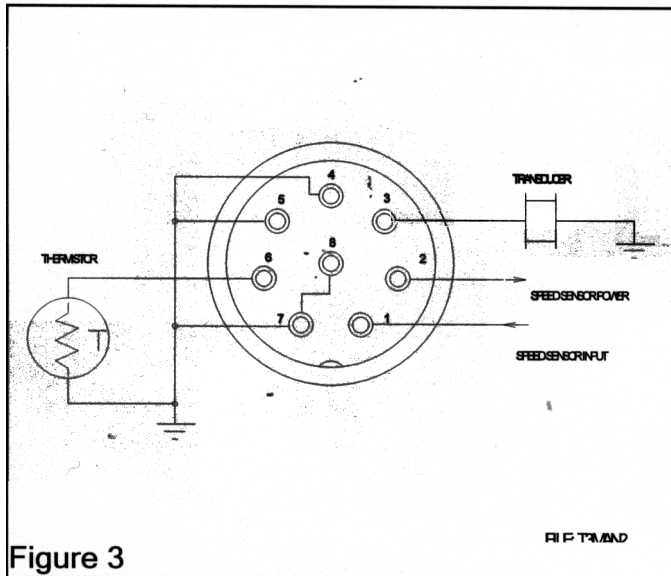

Figure 3
The 8-pin connector is used for testing transducers with speed, temperature, and depth functions or combinations thereof. This connector is specifically wired for the standard AIRMAR® TRIDUCER® Multi-sensor #91-002. Please refer to Figure 3 for the pin-out diagram.
1.5 (5) TRANSDUCER RESONANCE RESISTANCE CONTROL.
This control is used to find transducer element resonant points. It is a 1000 ohm potentiometer that forms part of an RC bridge circuit in conjunction with the Transducer Resonance Capacitance Selector (6). Figure 3 illustrates this concept. In use, this control is rotated until only one or two of the resonant frequency LEDs illuminate, indicating a good transducer element.
1.6 (6) TRANSDUCER RESONANCE CAPACITANCE SELECTOR.
This control is the power switch and also selects the amount of capacitance used in the RC bridge circuit (refer to Figure 3). The setting of this switch is dependent on the capacitance, and therefore, the size of the transducer. It is used in conjunction with the Transducer Resonance Resistance Control (5). In use this control is sequentially placed in positions 1 through 3 while the Resistance Control (5) is varied throughout its range to indicate transducer resonance points.
1.7 (7) STANDARD TRANSDUCER CONNECTOR